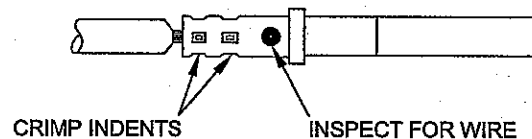

Fig 3 Inspection of contact after crimp
- 5.6 Inspect contact for correct crimping (Fig 3).